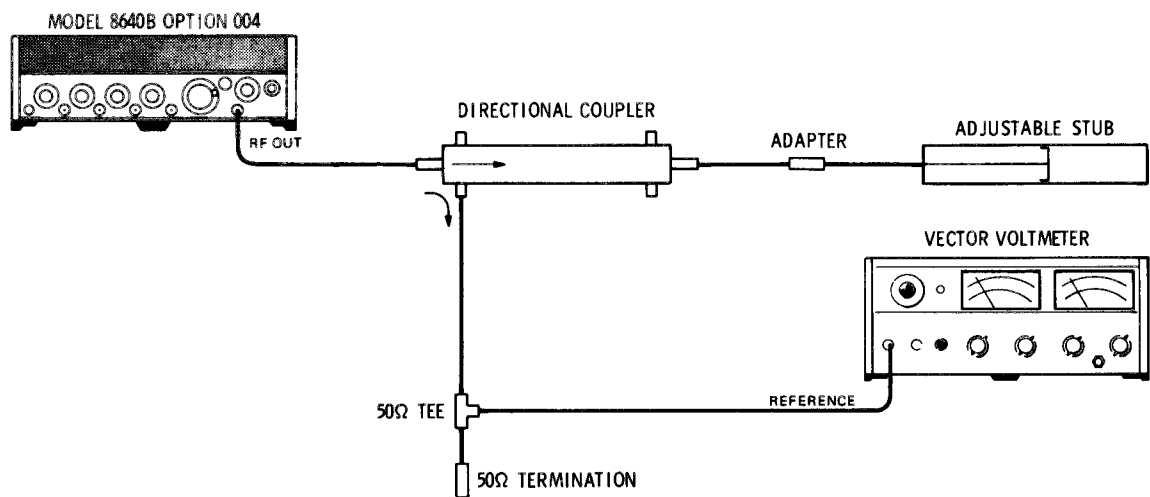

Figure 4-13. Output Impedance Test Setup (Signal Frequency)
- 1. Connect equipment as shown in Figure 4-13 after setting Signal Generator's controls as follows: